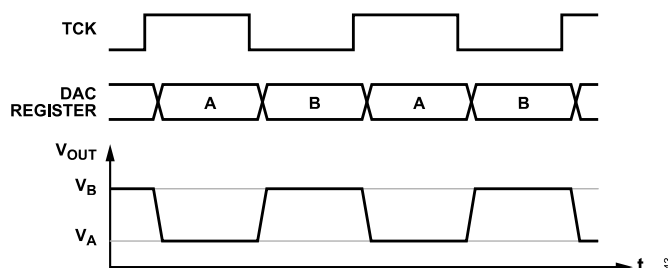

Figure 48. TCK Timing
When the TCK signal is high the DAC outputs a voltage (V_A) corresponding to Input Register A, and when TCK is low, the DAC outputs a voltage (V_B) corresponding to Input Register B (see Figure 48). The toggle function can be disabled by writing 0x0000 to the toggle/dither enable register (Command 11).
7. Apply the toggle clock signal to the TGP pin. The DAC output voltage changes on the rising and falling edges of the toggle clock signal as shown in Figure 48.